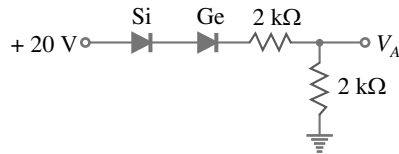

Fig. 4.86
6. Determine the magnitude of  $V_A$  in the circuit shown in Fig. 4.86. [9.5 V]